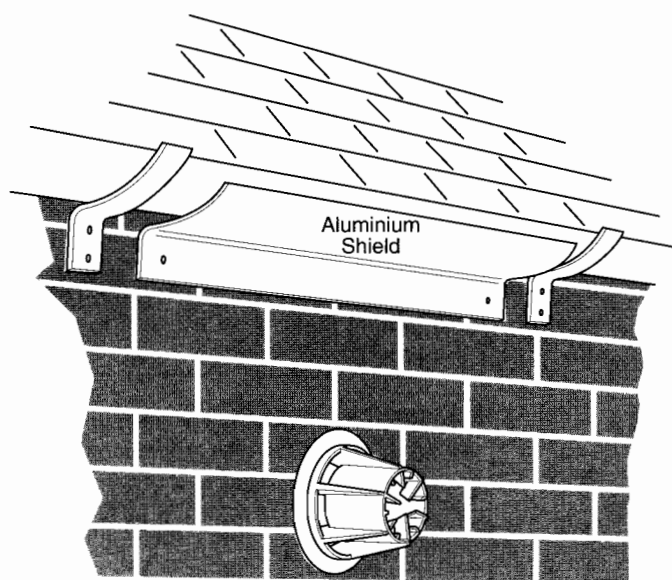

Fig. 9
3. If the terminal is fitted within 1 metre (39 in) of a plastic gutter, within 500mm (19½ in) of a painted eave or a painted gutter, an aluminium shield of at least 1 metre (39 in) long should be fitted to the underside of the gutter or painted surface. An air space of 5mm (³⁄₁₆ in) should be left between shield and gutter (Fig. 9).